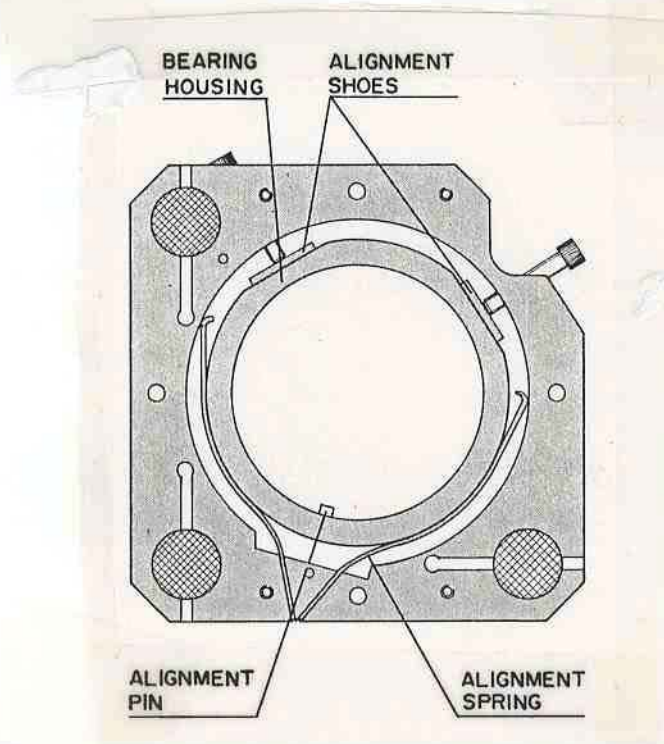

FIGURE 4-23. CO2 LASER TUBE FRONT SUPPORTING PLATE WITH SECURING BRACKETS REMOVED
and upper coolant tube. The rear bearing housing should come out with the tube, but the front bearing housing should remain in place (see Figure 4-23).
6. Slide the CO2 laser tube towards the rear section of the bench, while simultaneously pulling the high voltage lead and upper coolant tube. The rear bearing housing should come out with the tube, but the front bearing housing should remain in place (see Figure 4-23).
3. Apply a thin layer of petroleum jelly to the alignment spring of the CO2 laser supporting plate and on the bearing housing (see Figure 4-23) of the front CO2 laser supporting plate.